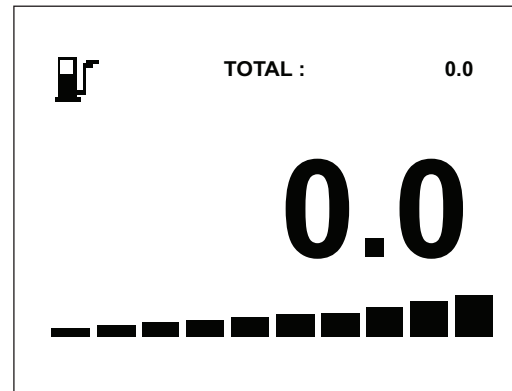

Figure 2: LCD – Pistol Screen
- When the dispensing nozzle is removed from its holder, the LCD will automatically switch to the Pistol Screen, as shown in Figure 2.